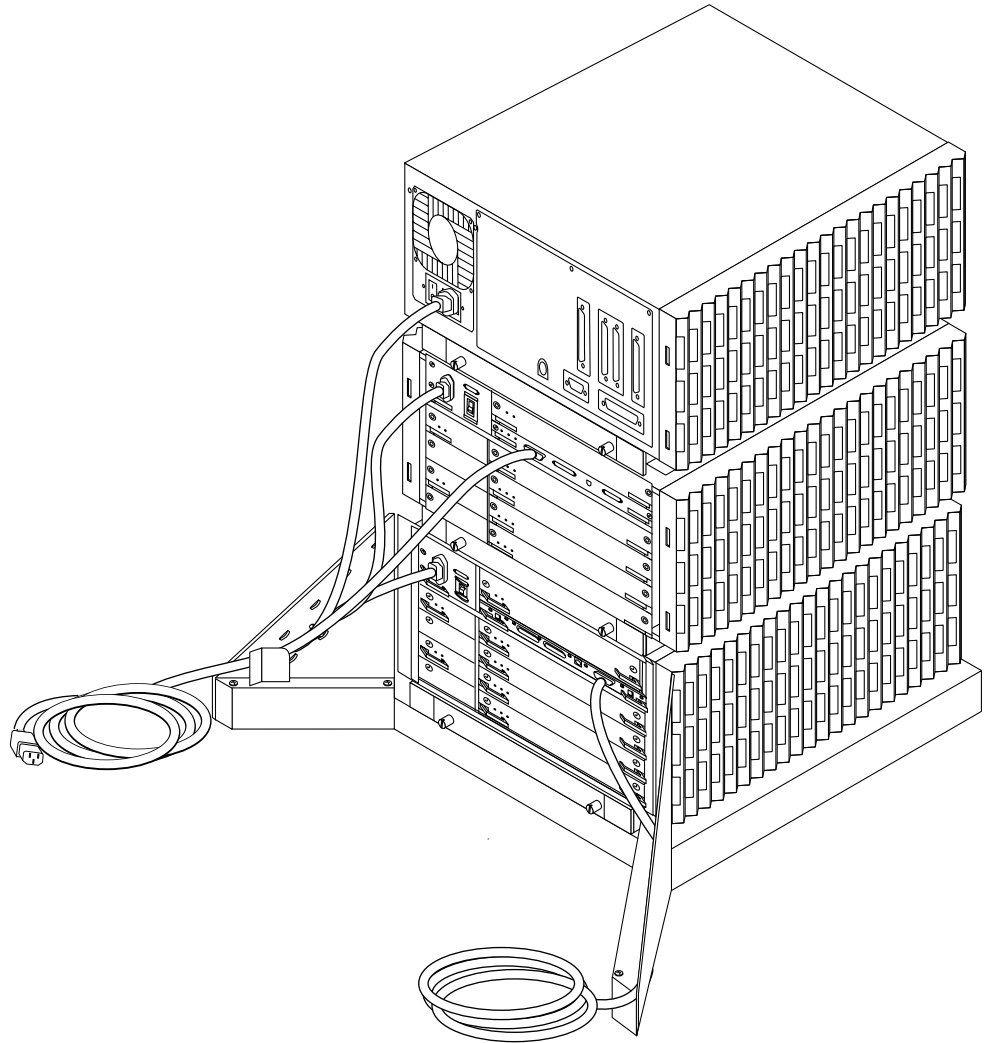
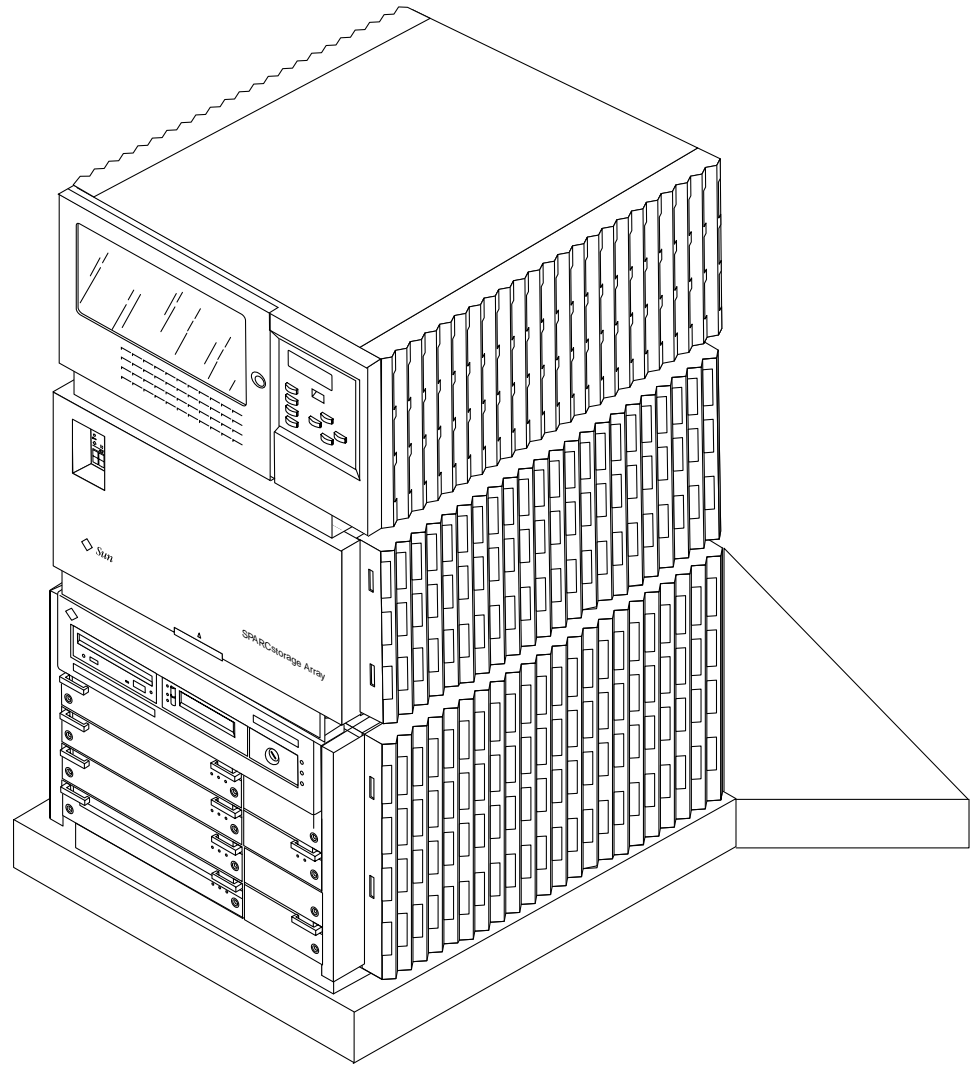

Figure 7 Completed Caster Base (Rear View)
Figure 8 Completed Caster Base (Front View)
- ◆ **For all caster base configurations, route the cables through the shrouds so that all cables cascade down the side of the stack (Figure 7).**
Your fully assembled unit should resemble the stack in Figure 7 and Figure 8.